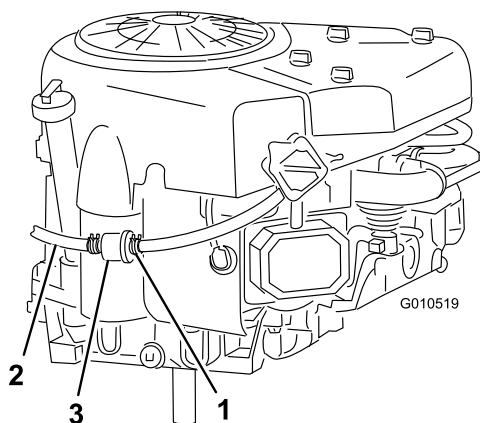

Figure 28
7. Squeeze the ends of the hose clamp together and slide it up the fuel line toward the fuel tank (Figure 28).
8. Pull the fuel line off the fuel filter (Figure 28) and allow the gasoline to drain into an approved fuel container or a drain pan.
10. Slide the hose clamp close to the fuel filter to secure both the fuel line and the fuel filter (Figure 28).
The best time to replace the fuel filter (Figure 28) is when the fuel tank is empty. Never install a dirty fuel filter after it has been removed from the fuel line.